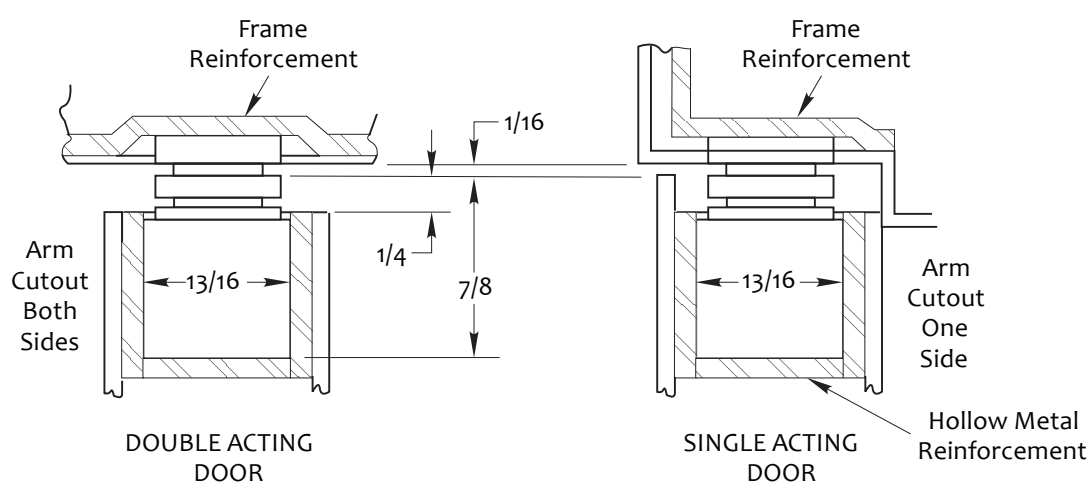

Figure 4 Arm cutout for single and double acting doors
- The jamb bracket shall be reinforced with a backer plate not less than 3/16" thick and 12" long. (Figure 4)
- Maintain a 1/16" clearance between the arm and the door frame. Adjust the mortise dimensions as required to achieve proper clearance. (Figure 4)
- The channel should be properly reinforced during installation as shown. (Figure 4)
- Determine whether to provide cutouts on both sides based on single-swing or double-swing door configuration. (Figure 4)